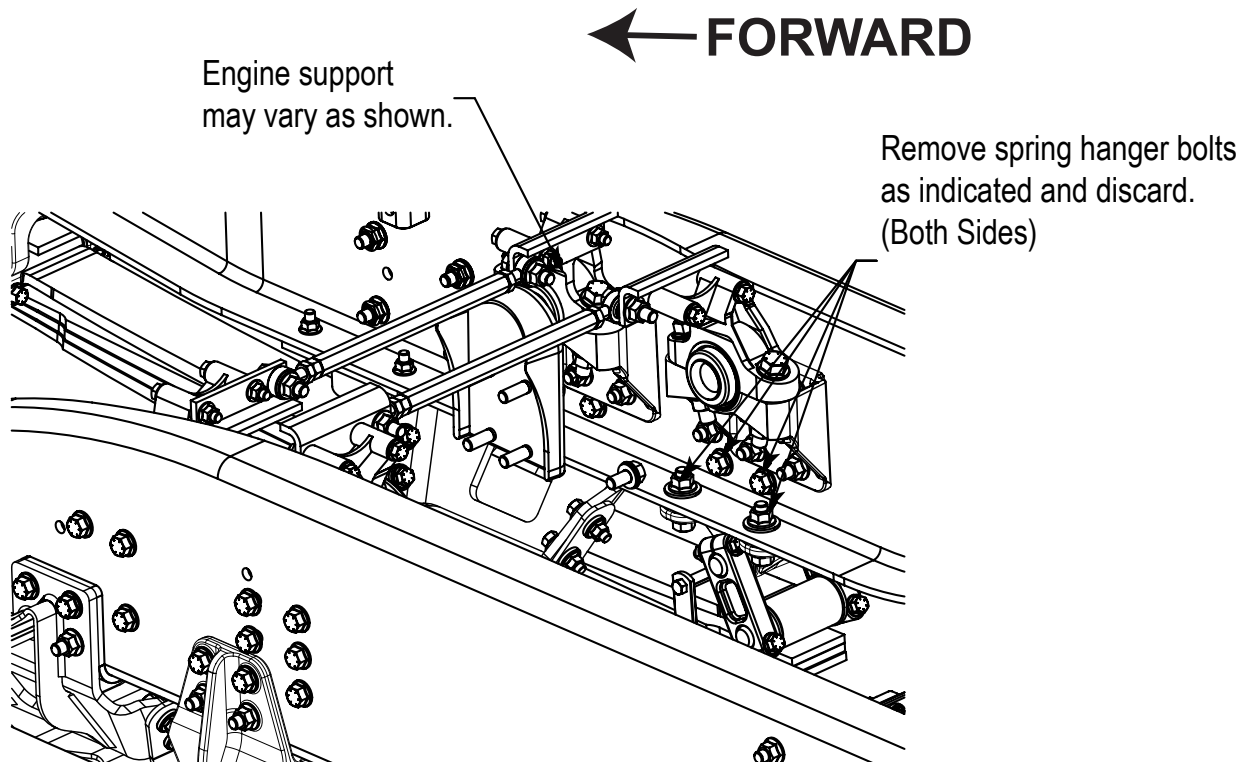

Figure 10
- Remove spring hanger bolts from frame rail bottom flange and discard, remove two bottom bolts from frame rail web section and discard (both sides) (Figure 10).